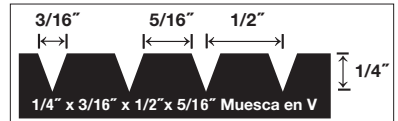

Figura 2
- Lana de 1/4" x 1/2" x 3/16" (6 mm x 13 mm x 8 mm) (Figura 2)